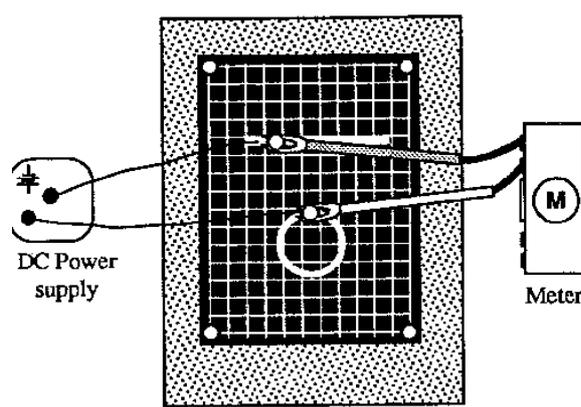

Figure 13.3: Connections of the Electrodes to a DC Power Supply
1. Connect the electrodes to a DC power supply as in Figure 13.3.